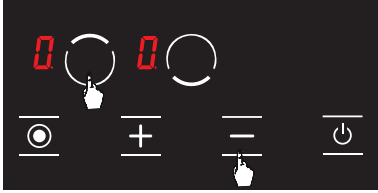

Figure 14
1. Press upper hob selection key (●) and minus key (—) simultaneously, you shall hear a short warning signal at this time. (see Fig. 14) Then, remove your fingers from the stove control panel.